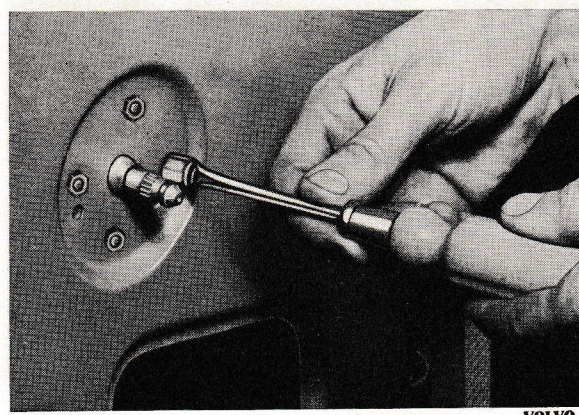

Fig. 20. Removing the winding roller.
3. If necessary, the upper jockey pulley, lower jockey pulley with tensioning device and the winding roller itself can be removed. The winding roller is removed by unscrewing the four screws, see Fig. 20, after which the roller and shaft are lifted out. Before fitting the window, make sure that the guide strips and sealing strips are in good condition. If these are worn or damaged, they must be replaced.